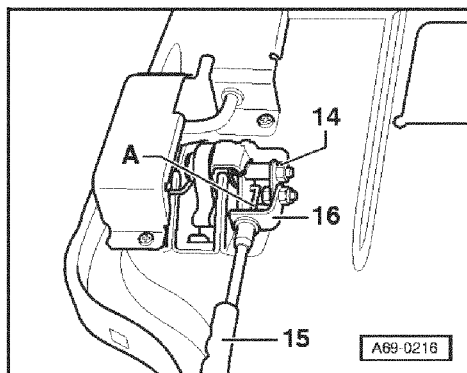

Fig.2 Disconnecting Bowden cable at backrest lock
- Disconnect Bowden cable -15- from backrest lock => Fig. 2